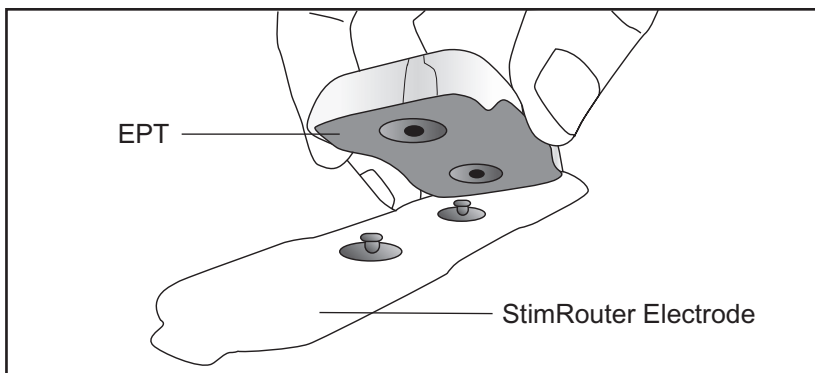

Figure 7-2: StimRouter EPT and StimRouter Electrode connecting.
5. Snap the EPT onto the StimRouter Electrode. See Figure 7-2.